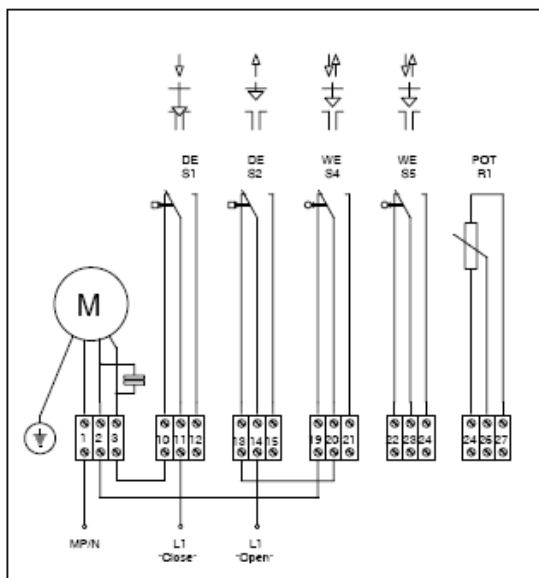

Fig.3
- Insert cables through the screwed glands and connect to the terminals according to the wiring diagram adhered inside the cover (see also Fig. 3 and 6).